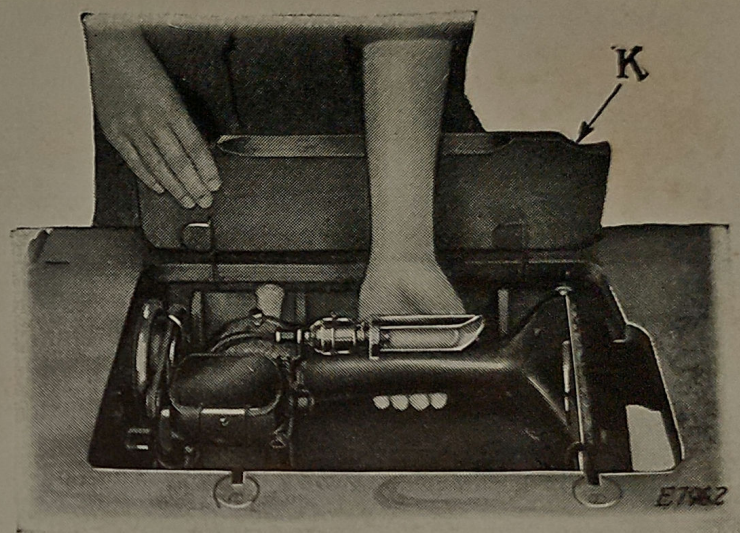
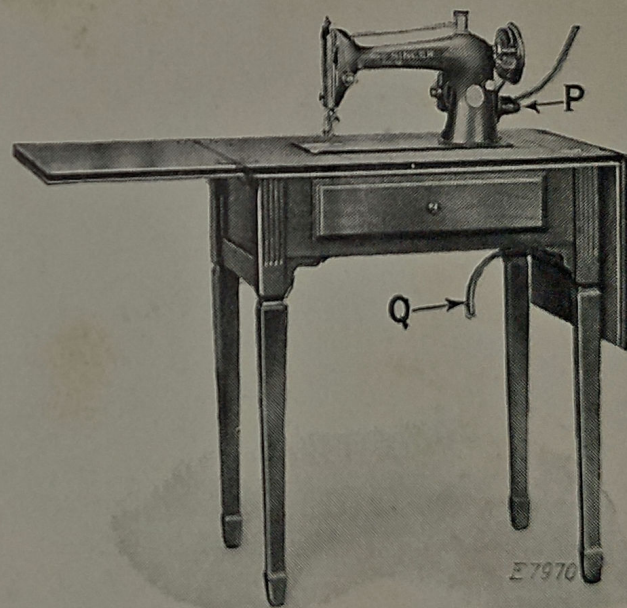
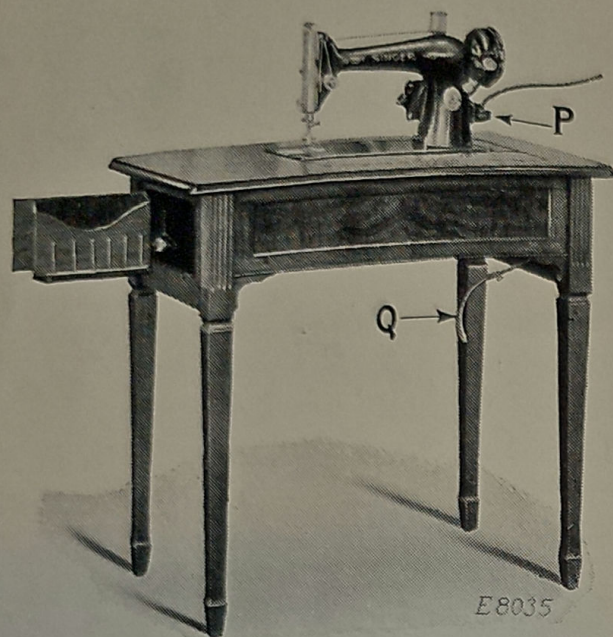

FIG. 4. RAISING MACHINE OUT OF CABINET 40
FIG. 5. KNEE LEVER LOWERED TO OPERATING POSITION ON CABINET 40 ALSO ELECTRICAL CONNECTION
FIG. 9. KNEE LEVER LOWERED TO OPERATING POSITION ON CABINET 306
With the right hand raise the front hinged portion (K, Fig. 4) of the table, and at the same time place the left hand under the front side of the arm of the machine, as shown in Fig. 4, being very careful not to touch the electric lamp or shade, and raise the sewing machine head, then replace the hinged portion of the table and lower the machine so that it rests on the table, as shown in Fig. 5.
Pull down the knee lever (Q) to the vertical position as shown in Fig. 5.
Push the terminal plug at one end of the electric cord as far as it will go on the three-pin terminal block at the right of the machine, as shown at P in Fig. 5. Attach the plug at the other end of the cord to the nearest electric socket and the machine is ready for operation.
Raise the sewing machine head out of the cabinet as shown in Fig. 4, being very careful not to touch the electric lamp or shade, then turn down the hinged flaps of the table top and lower the machine so that it rests on the table as shown in Fig. 9.
Pull down the knee lever (Q) to the vertical position as shown in Fig. 9.
Fig. 9 shows the swing-out drawer at the left of the table. This drawer is provided with holders for spools, bobbins and oil can and has a compartment for the box of attachments.
Push the terminal plug at one end of the electric cord as far as it will go on the three-pin terminal block at the right of the machine, as shown at P in Fig. 9. Attach the plug at the other end of the cord to the nearest electric socket and the machine is ready for operation.
With the left hand grasp the machine around the front side of the arm, turn it slightly back on its hinges, and at the same time, with the right hand, raise the front hinged portion (K, Fig. 4, page 5) of the table, lower the machine head, **being careful not to touch the electric lamp or shade;** then lower the hinged portion (K).